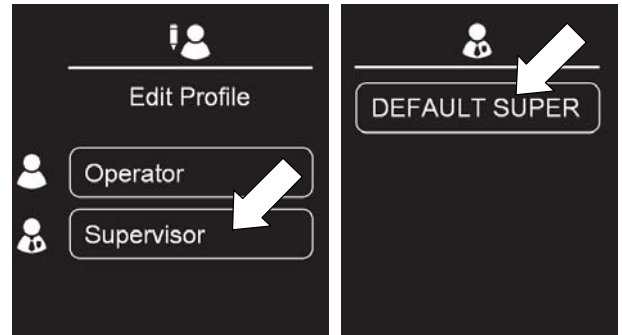

FIG. 184
4. Press the Supervisor button then press the DEFAULT SUPER button (Figure 184).